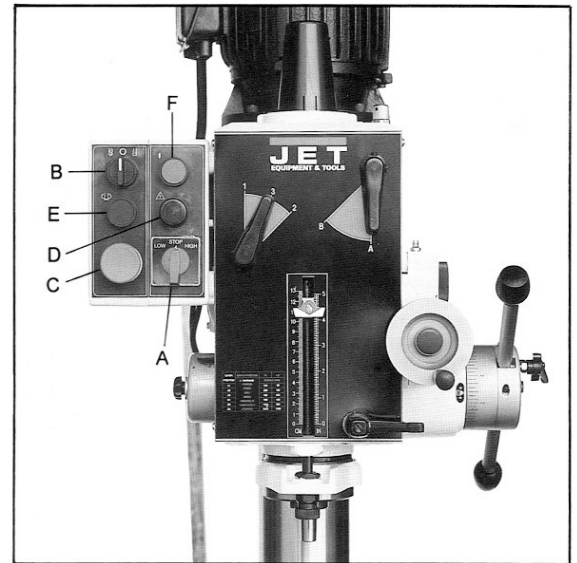
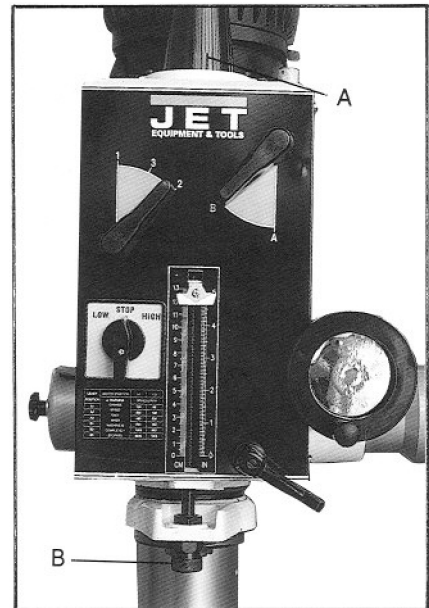

Figure 9A
Figure 11
Low/Off/High Switch (A, Figure 9A) Switch between low and high-speed range. In the stop position, the spindle is stopped, but the machine still has power.
Drilling Tapping Selector (B, Figure 9A) For drilling, press the start switch (F, Figure 9A) to run the machine. **Caution:** The internal depth stop (GHD-20PFT) is used only with the tapping function. Raise the adjusting knob (B, Figure 11) to the top of the depth stop screw so as not to interfere with power downfeed or manual feeding operations. For tapping, turn switch (B, Figure 9A) to tapping position, press down the handle. The quill functions when upper limit switch is released. It then reverses automatically after hitting lower limit switch and will not stop until it hits the upper limit switch.
Emergency Switch (C, Figure 9A) Press this switch to stop all operations.
Power Light (D, Figure 9A) Indicates power is on.
Reverse Switch (E, Figure 9A) If tapping is interrupted press the reverse switch to reverse the tap from workpiece. The button must be held down for continuous reversing.
Start Switch (F, Figure 9A) Activates the motor in the drill or tap mode.
3. Remove the main shaft cover (A, Figure 11).
1. Turn the adjusting knob (B, Figure 11) until the correct depth is indicated on the scale on the front of the drill head.
1. Turn the adjusting knob (B, Figure 11) until full travel is possible. Do not use this scale as a reference when drilling. This depth stop is for tapping only and should not interfere with drilling operations.